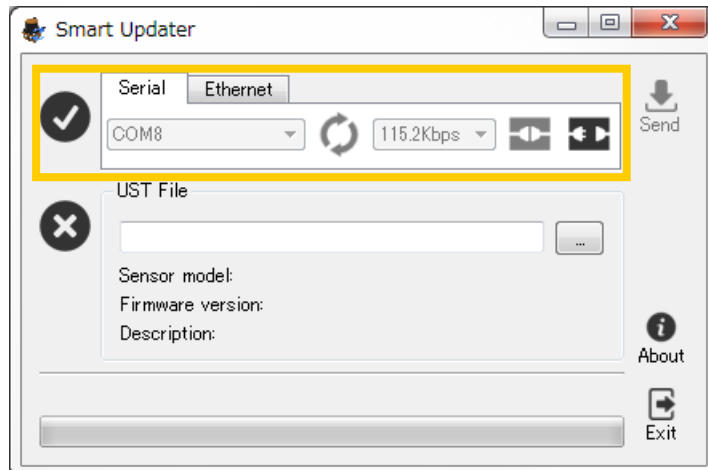

Fig B.2.3-2 Window of Smart Updater connection established
1. Confirm that the sensor is connected and click [  / connect]. When the connection is established, the display will change as in illustrated in Fig. B.2.3-2 and the icon on the left side that indicates the processing status will change from  to .